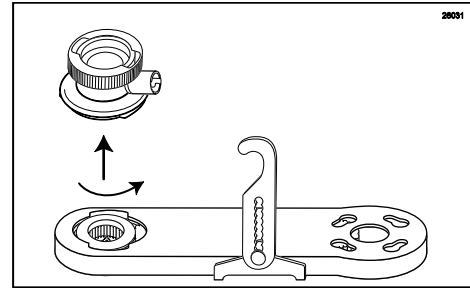

Figure 28
- Rotate the Injector Head to unlock it from the Gear Box. (See Figure 28.)